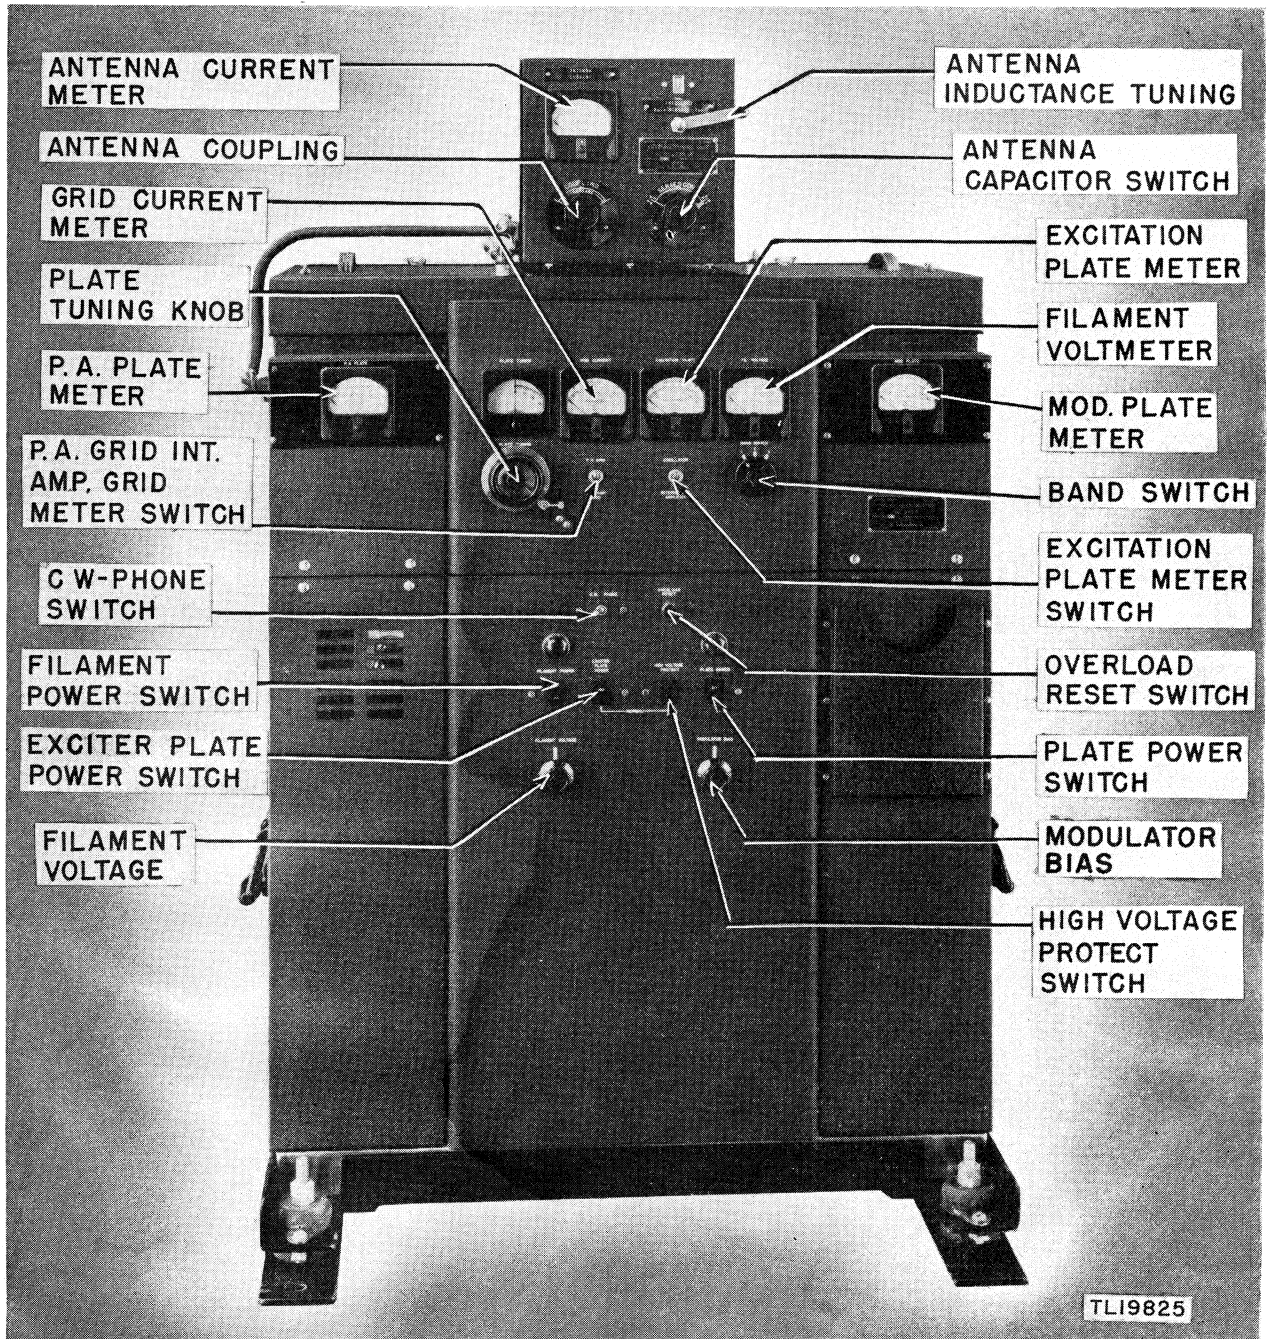
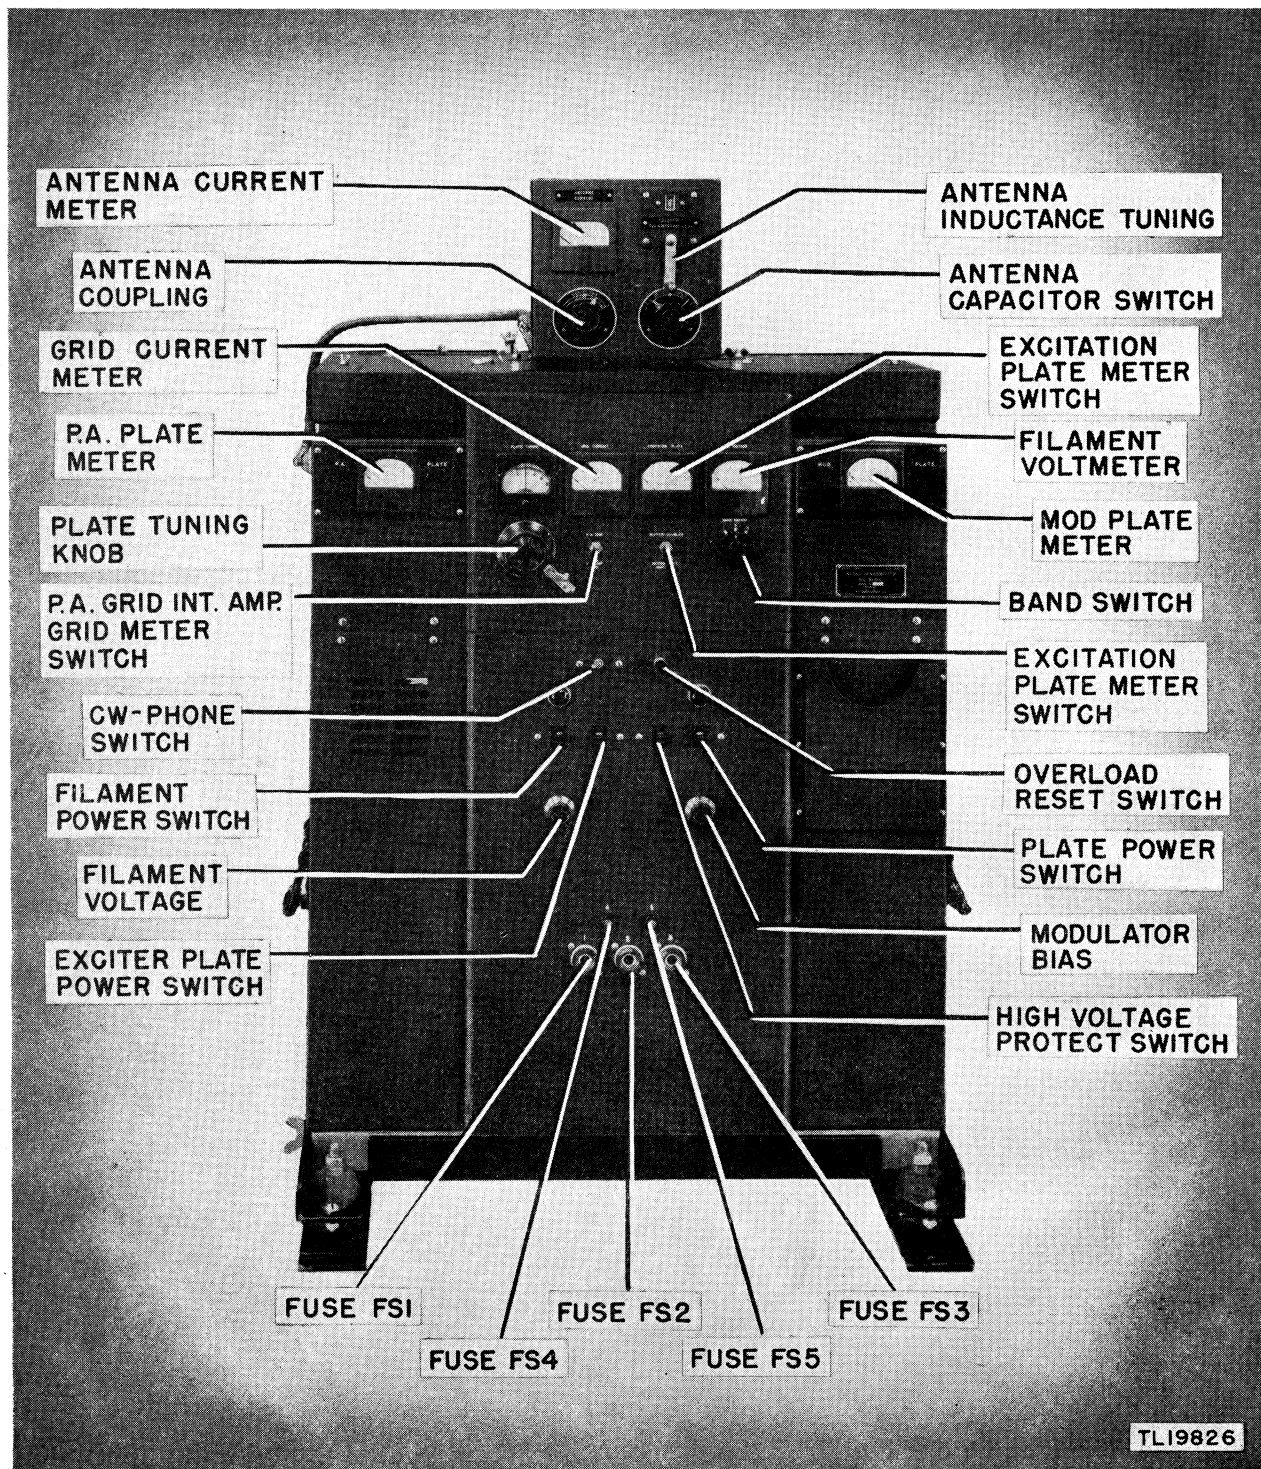
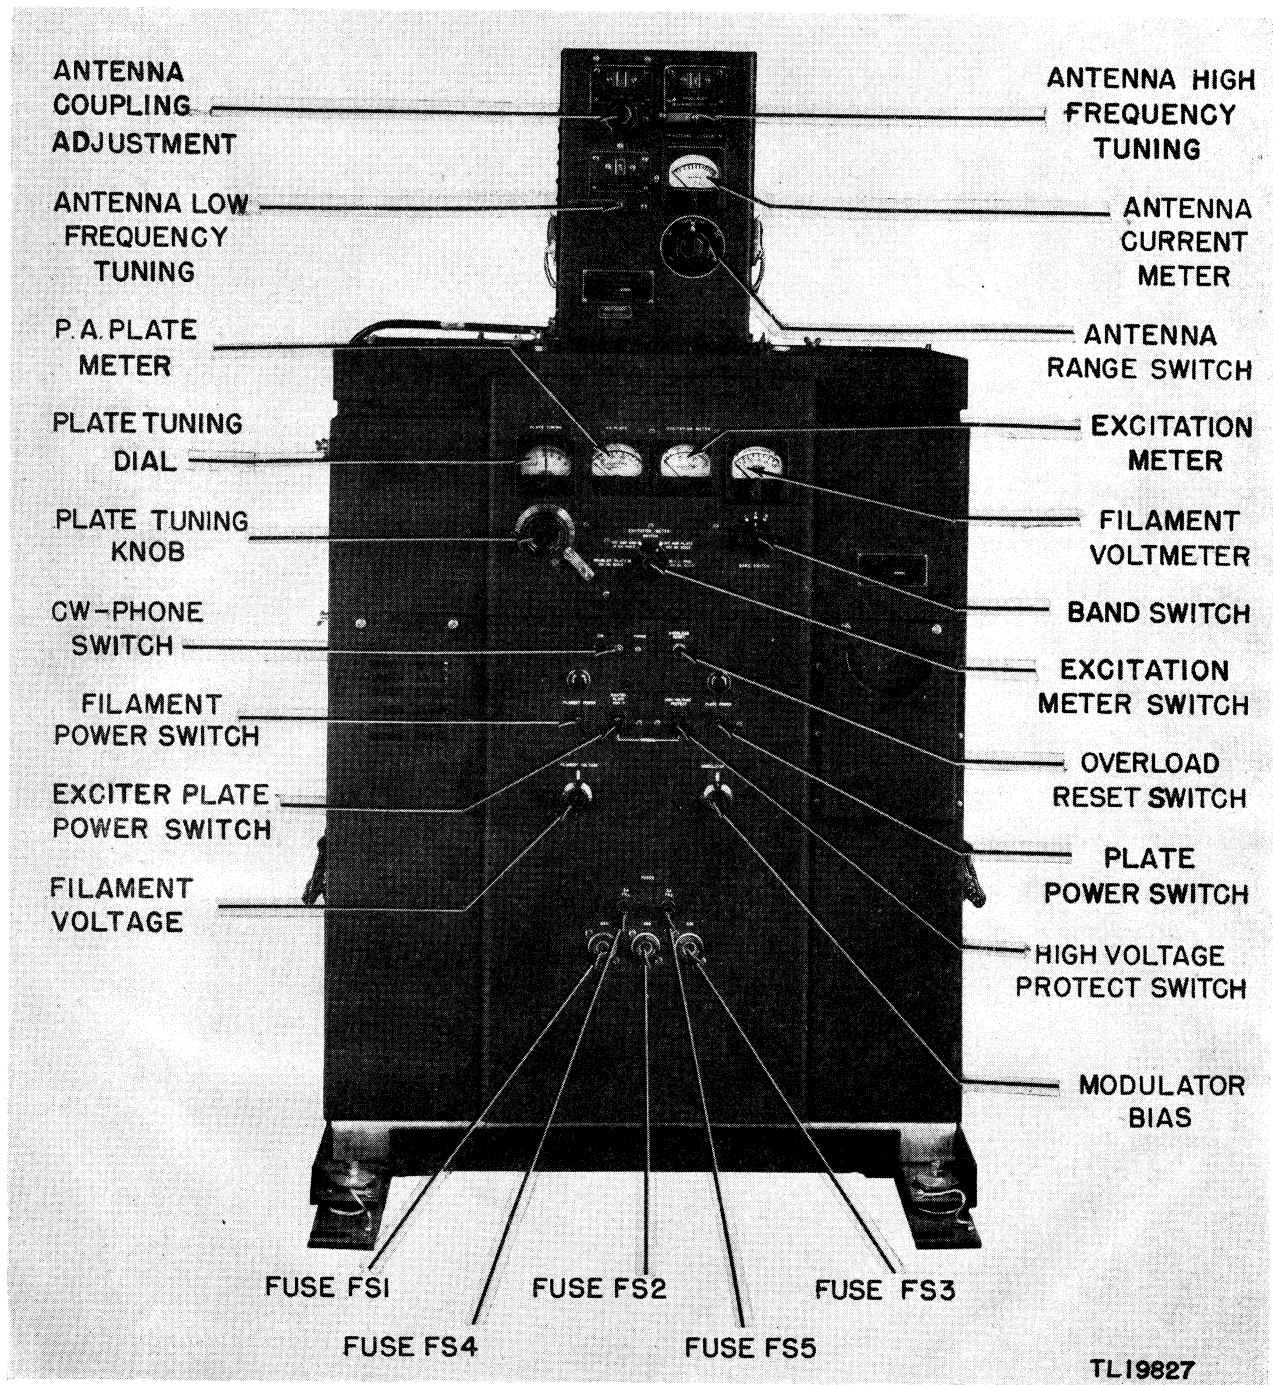

Figure 1. Radio Transmitter BC-610-A, -B, and -C with Antenna Tuning Unit BC-729-(\*), front view.
Figure 2. Radio Transmitter BC-610-D with Antenna Tuning Unit BC-729-(\*), front view.
Figure 3. Radio Transmitter BC-610-E with Antenna Tuning Unit BC-939-A, front view.
BC-610-A through -D are equipped with Antenna Tuning Units BC-729-( ); model BC-610-E is equipped with Antenna Tuning Unit BC-939-A. These tuning units are mounted on top of, and are connected to, the transmitters to match their output to the antenna. (See figs. 1, 2, and 3.)
d. FRONT PANEL. On the upper part of the front panel are mounted the various meters and switches. On the lower section are mounted switches for handling power application, the CW-PHONE switch, a reset switch for the overload relay, and controls for setting the filament voltage and the modulator bias. In addition to these controls, Radio Transmitters BC-610-D and BC-610-E have all of their fuses mounted on this panel. (See figs. 1, 2 and 3.)
M4 is a modulator plate meter.	M4 is an antenna current indicator. (See fig. 3.) (See par. 9.)
M6 is an antenna current indicator (See figs. 1, and 2.) (See par. 9.)
FS1, FS2, FS3, FS4, and FS5 are located on the back of the chassis of the modulator section. (See fig. 1.)  D These fuses are located on the lower section of the front panel. (See fig. 2.)	FS1, FS2, FS3, FS4, and FS5 are located on the lower section of the front panel. (See fig. 3.)